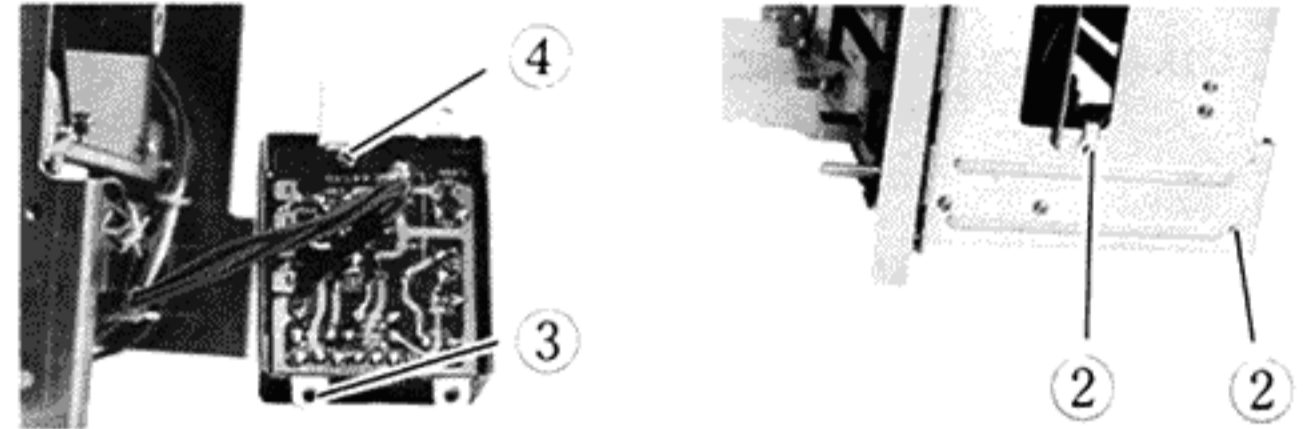

Fig. 10-2
- 2) Oscillator circuit board (Fig. 10-2)